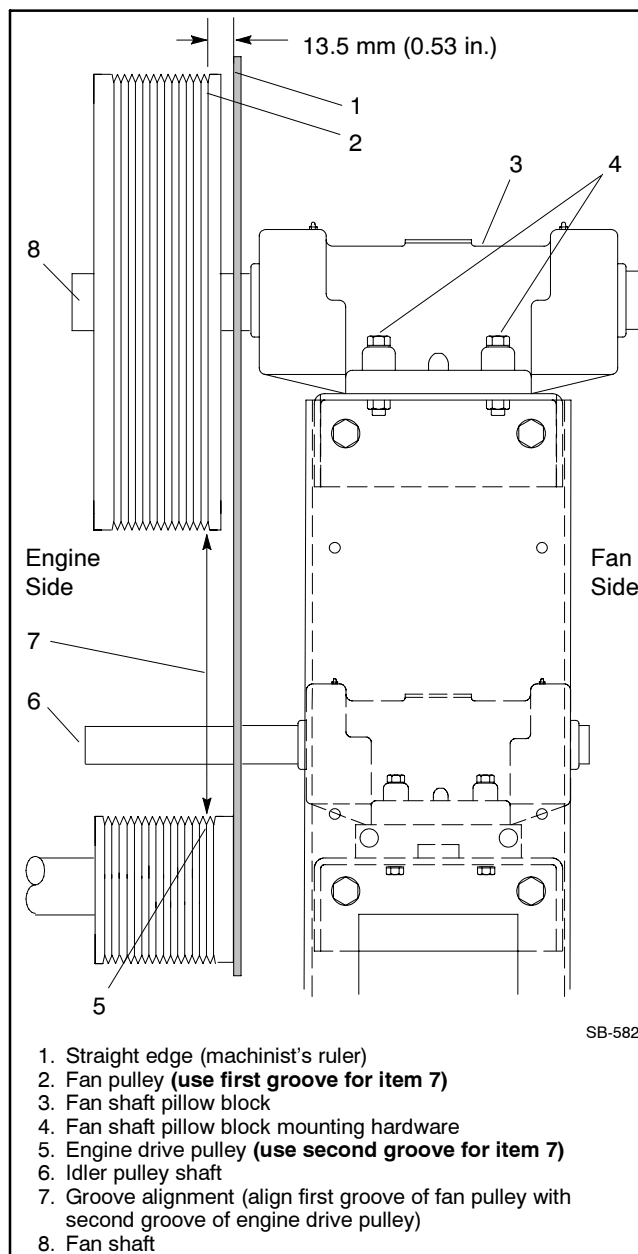
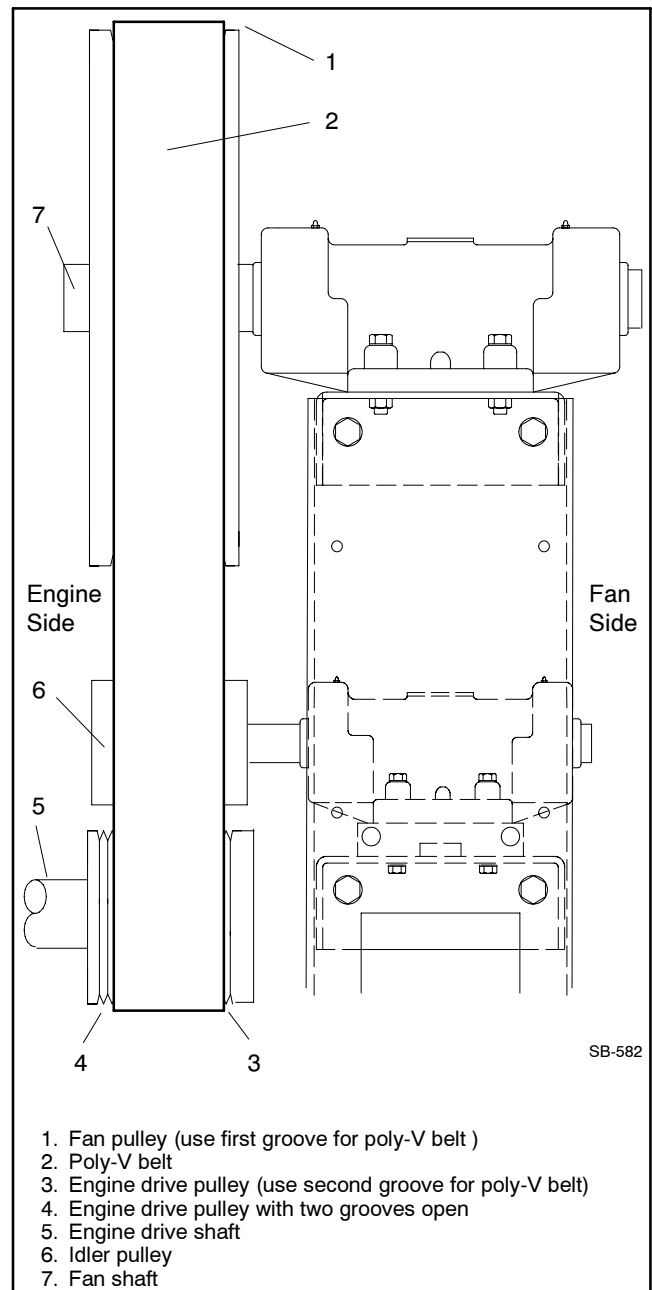

Figure 3 Pulley Alignment, Side View
Figure 4 Belt Installation
- 2.2 Align fan pulley with the engine drive pulley. The second groove of engine drive pulley must align with first groove of the fan pulley. See Figure 3.
Adjust the left-to-right pulley alignment by loosening the fan shaft pillow block mounting hardware. See Figure 3.
2.7 Install the poly-V belt. Align the poly-V belt with the second groove on the engine drive pulley and the first groove on the fan pulley from the fan side. See Figure 3 and Figure 4.